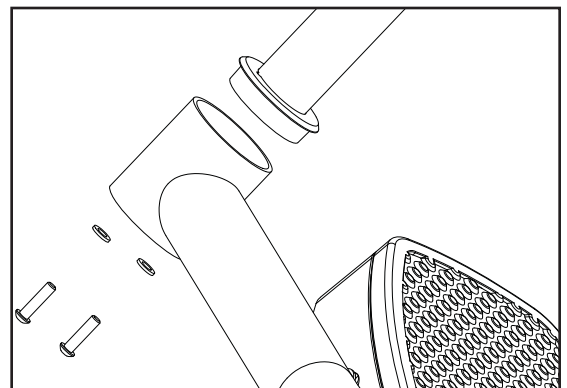

Figure 18
**9-5** Position the lower end of the handrail over the rear leg weldment, then pulling the handrail towards you secure it into position with 2 Hex screws using the 5/32" (4mm) T-handle (see Figure 18).